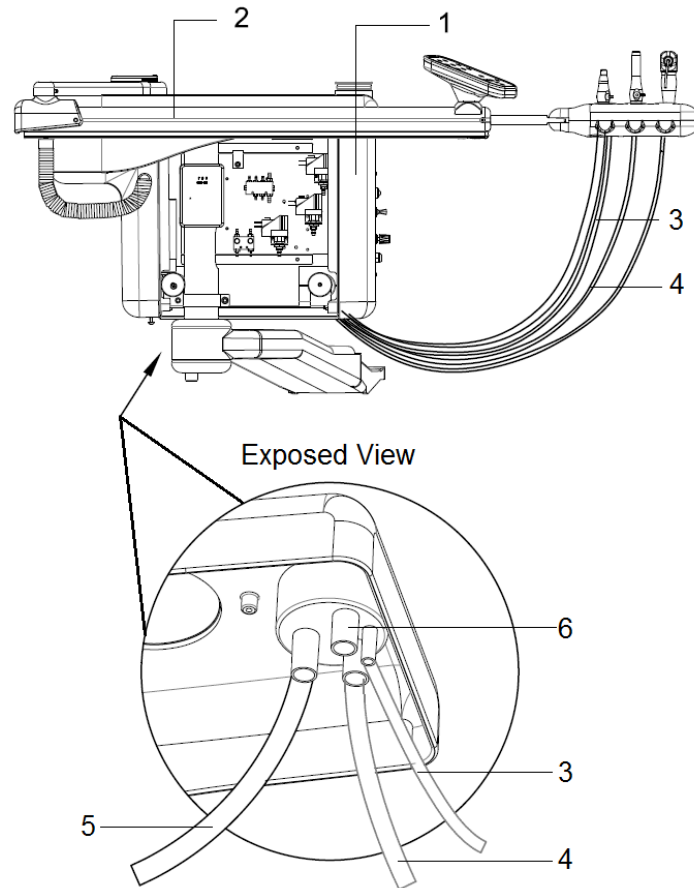

Figure 6. Vacuum Tubing Installation
1. Install the HVE and SE tubing to the vacuum canister bottom connections per the exposed view of Fig. 6. (Typically the HVE and SE tubing should have already been installed from the factory.)
2. Take out the main vacuum ½" corrugated tubing ⑤ from the side box support arm opening.
3. Install the main vacuum ½" corrugated tubing ⑤ to the vacuum canister bottom connection.